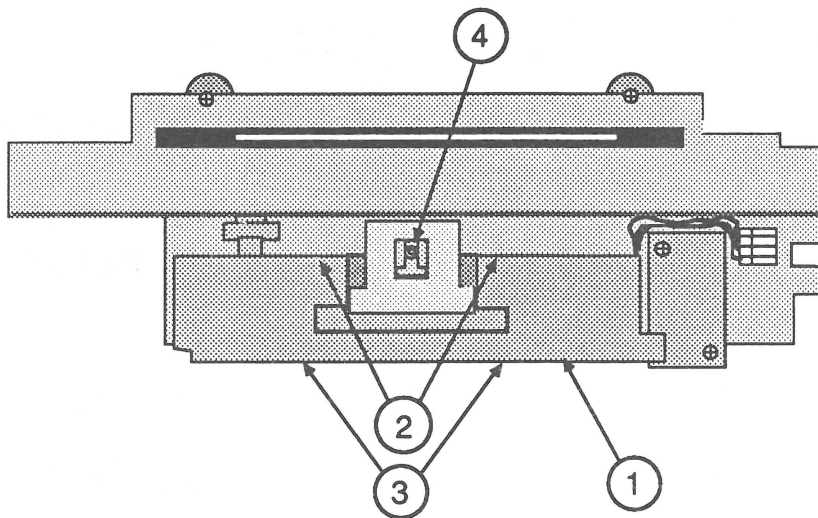

FIGURE 17
4. Using both hands, grasp the top lid (Figure 17, #1) of the optical block by putting your index fingers on the front part of the top lid (Figure 17, #2) and your thumbs on the back part of the lid (Figure 17, #3).
CAUTION: In the middle top of the optical block is a set screw (Figure 17, #4). This screw holds the CCD chips and mirror alignment. Do not attempt to loosen this screw. If the screw is loosened, the entire optical block must be replaced.